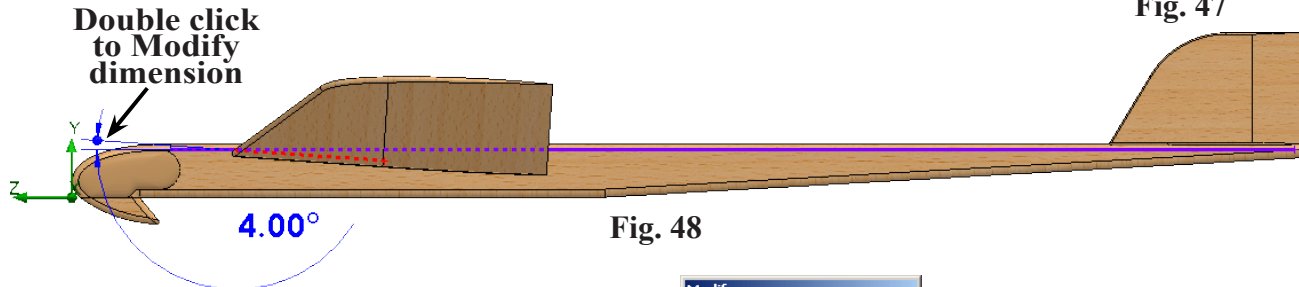

Fig. 48
Step 4. **Double click** the 4 degrees dimension  to modify, **Fig. 48**.